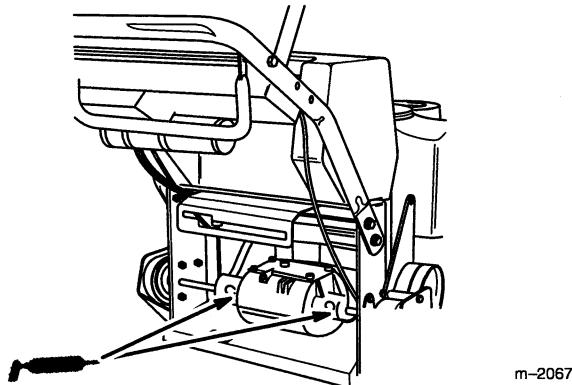

Figure 24
2. Lubricate the transmission couplers (Fig. 24).